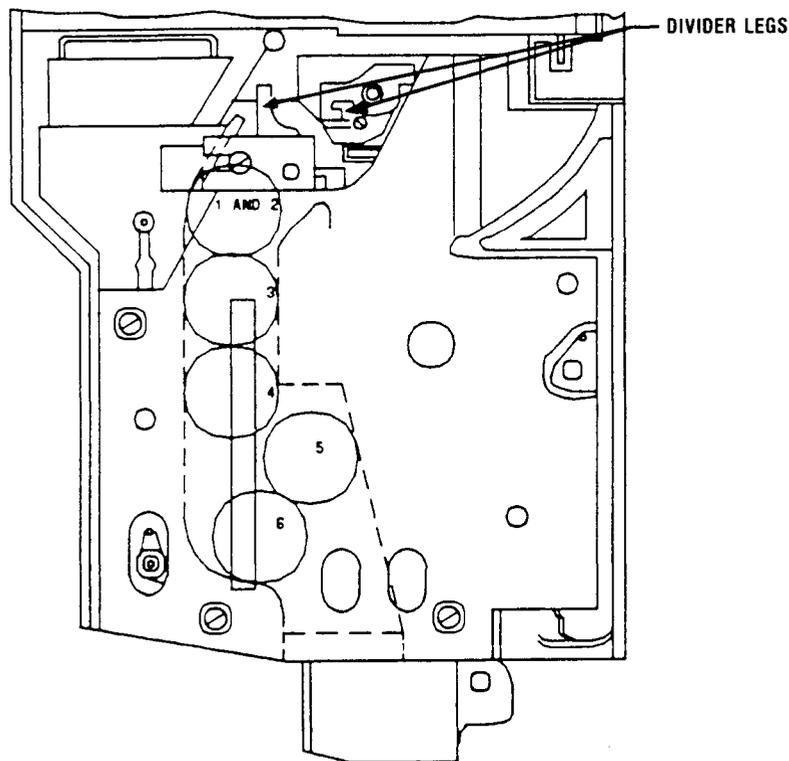

Figure 25 Coin Chute
4. If coins are still jammed (Figure 25 shows dimes overlapped), remove the 47A2 Signal Unit (Totalizer) from lower portion of coin chute. (Refer to the "Signal Unit 47A2" section in this Chapter.)
NOTE: Two overlapped dimes should not be pulled past lower dime divider leg with 787A Tool hooked on dime edge. Refer to Figure 25.